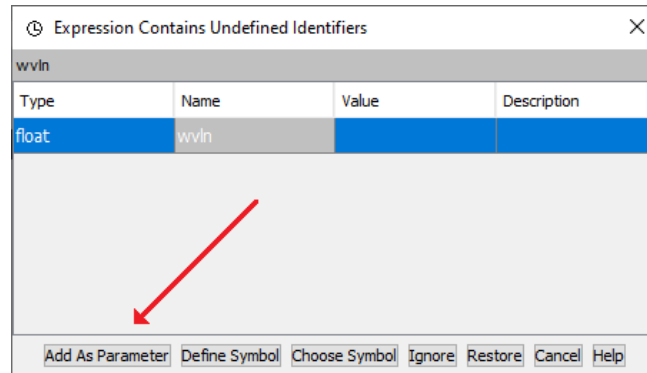

Figure 3.9: Dialog box when using undefined variables in setting expressions
- When you pressed <Enter>, the TSE popped up another window, entitled "Expression Contains Undefined Identifiers", as shown in Fig. 3.9.